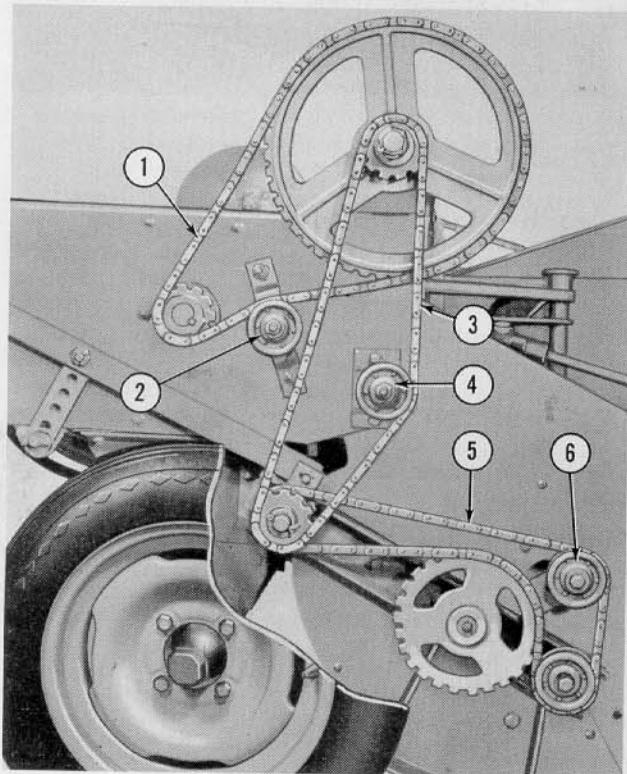

Figure 15
3. The auger drive chain (1), Figure 15, is adjusted by means of the tightener (2).
4. Tension on the primary and secondary pick-up drive chains (3) and (5), Figure 15, is controlled by means of the chain tighteners (4) and (6).